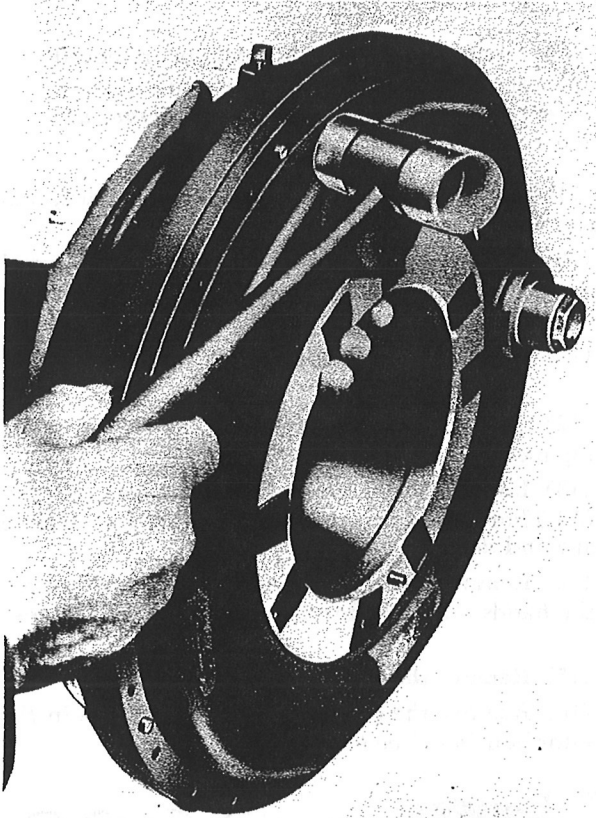

Figure 59—Loosening Regulator Cover
(10) While holding the regulator, tap the dowel with a soft-faced mallet to loosen the regulator cover from the housing. (See figure 59.)